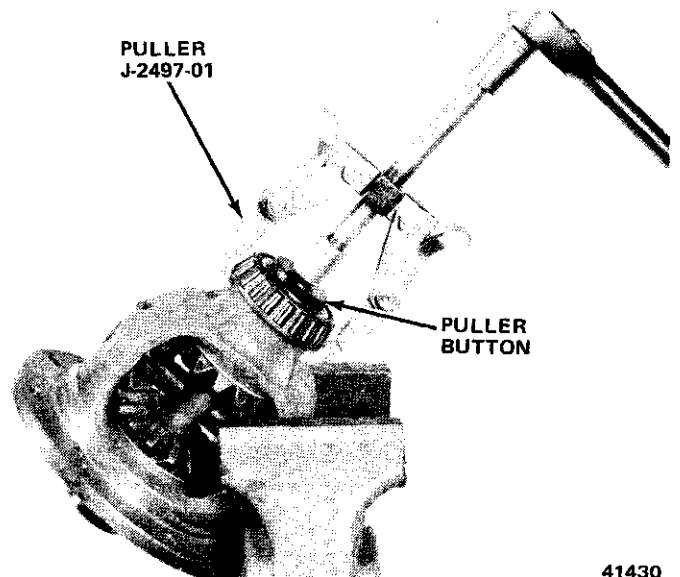

Fig. 2F-32 Differential Bearing Removal
(3) Position Puller J-2497-01 on bearing and remove bearing (fig. 2F-32). When using puller, be sure it pulls